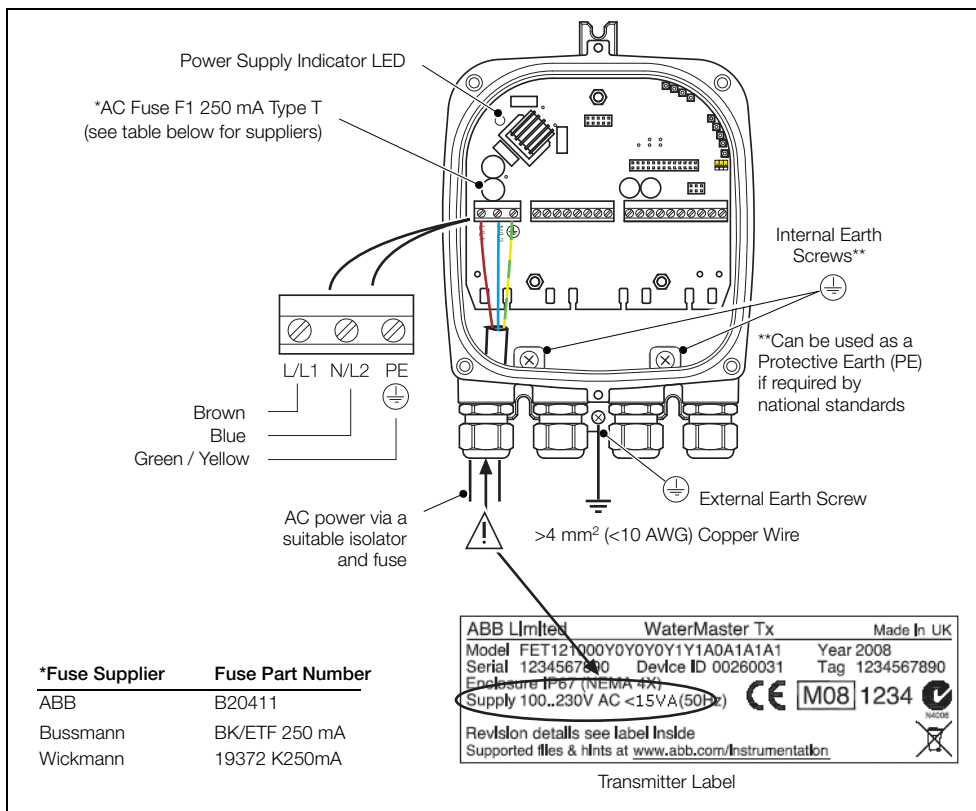

Fig. 3.18 AC Power Supply Connections
- Replace fuses with the correct part – see Fig 3.18 (AC power) and 3.19, page 21 (DC power).